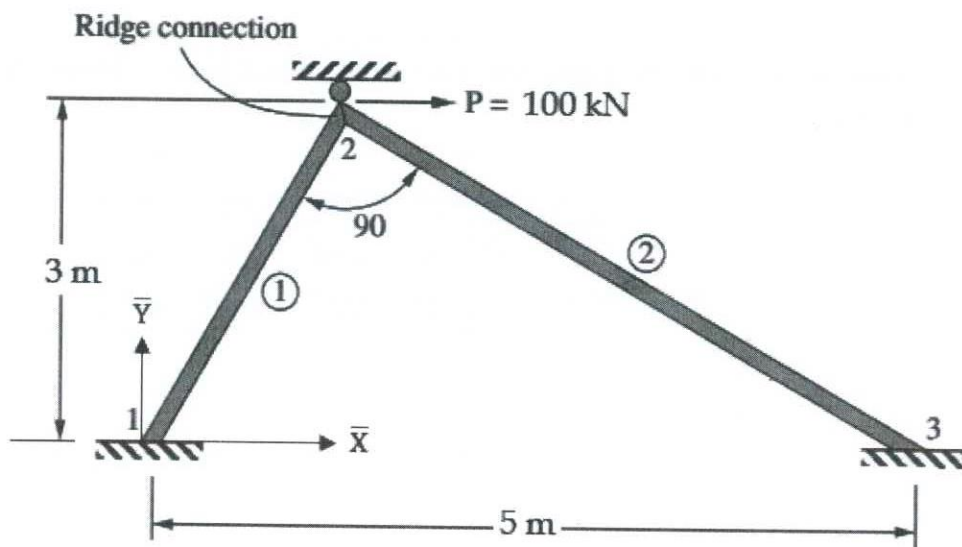

Fig. Q2
- b) An idealized frame structure consisting of two members joined together rigidly at Node 2 is supported at Nodes 1 and 3 as shown in Fig. Q2. The frame is guided by a roller support at Node 2. A concentrated force $P = 100\text{ kN}$ acts horizontally at Node 2. Using matrix stiffness method, perform the followings: